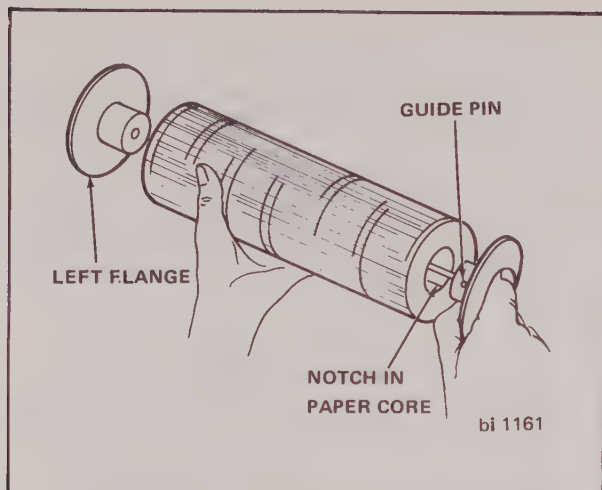

FIGURE 6-2. CHANGING CHART PAPER
4. Unscrew right flange from paper supply roll. Remove and discard core (Figure 6-2).